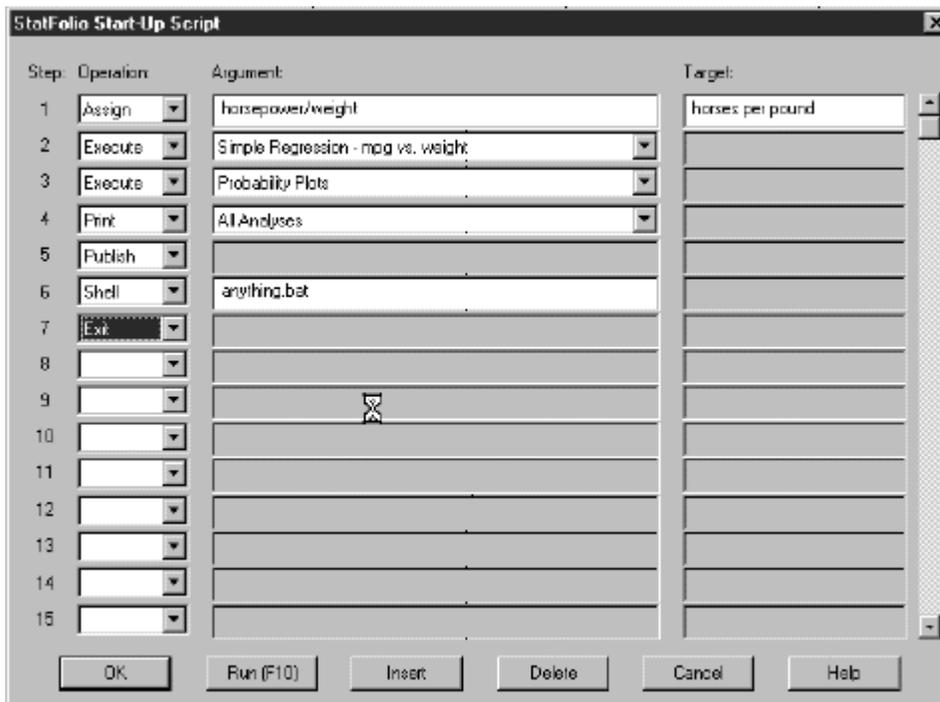

Figure 6-12. StatFolio Start-Up Script Dialog Box
1. Choose EDIT...STATFOLIO START-UP SCRIPT...from the Menu bar to display the StatFolio Start-Up Script dialog box (see Figure 6-12).
For example, the script displayed in Figure 6-12 above could be executed by entering